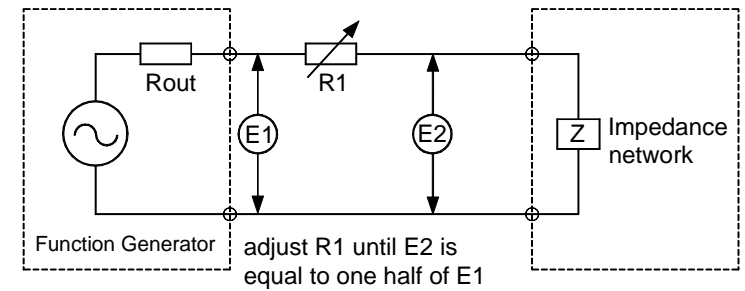

Figure4-7
- Series connect a R1 to the network under test as in figure 4-7.